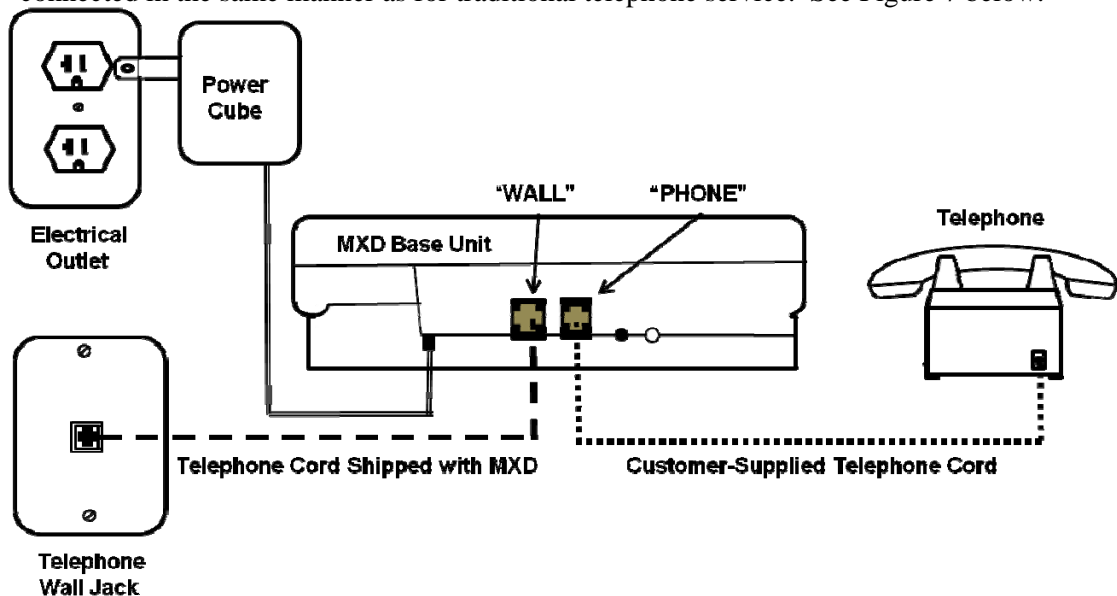

Figure 7. MXD Connections for Locations with Hard-Wired DSL Filters
2. **Configuration 2: The DSL filter is hard wired by the DSL provider.** In this instance the location does not have self-installed filters on the telephone jacks, and the MXD unit should be connected in the same manner as for traditional telephone service. See Figure 7 below.